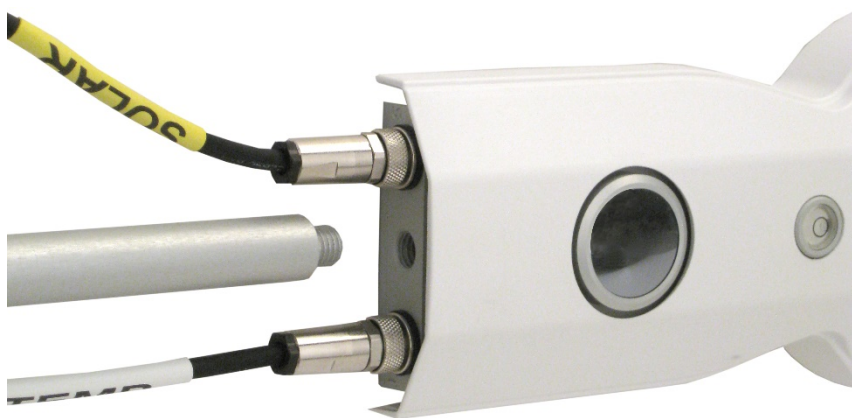

FIGURE 4-1. Attaching the mounting rod to the CNR4 body
1. Attach the mounting rod to the CNR4 (see FIGURE 4-1).